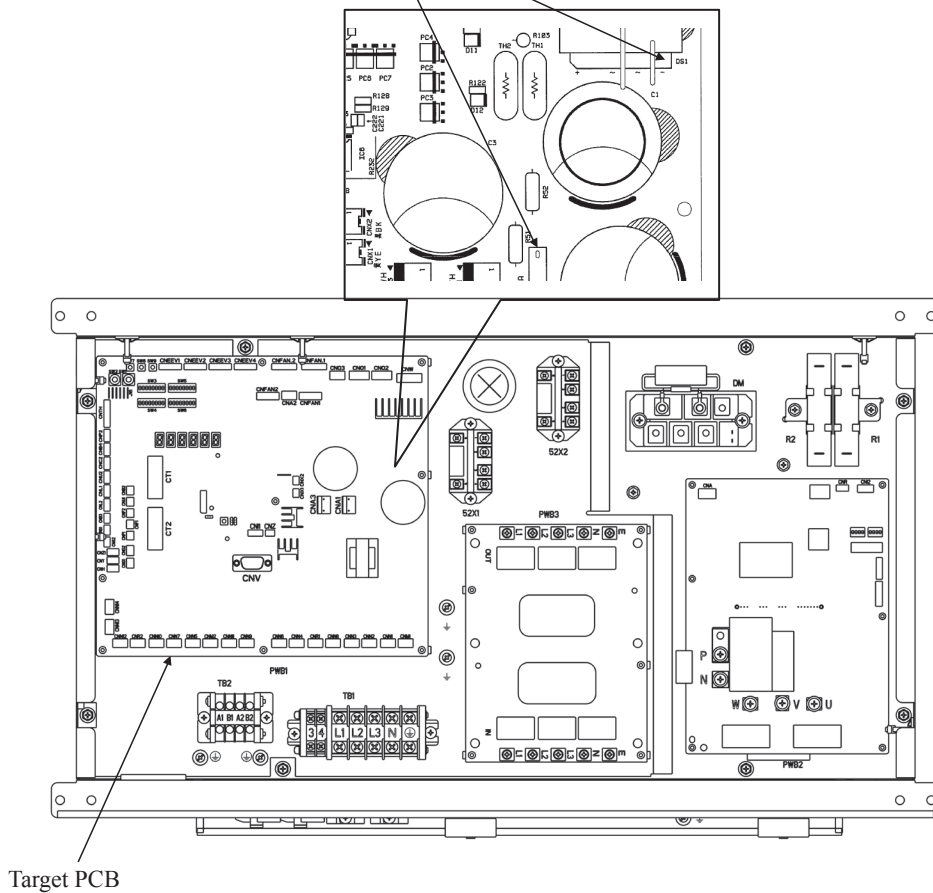

Fig.2 Voltage Measurement Point
(Be sure to measure voltage (DC) and check that the voltage is discharged sufficiently. (Refer to Fig.2))